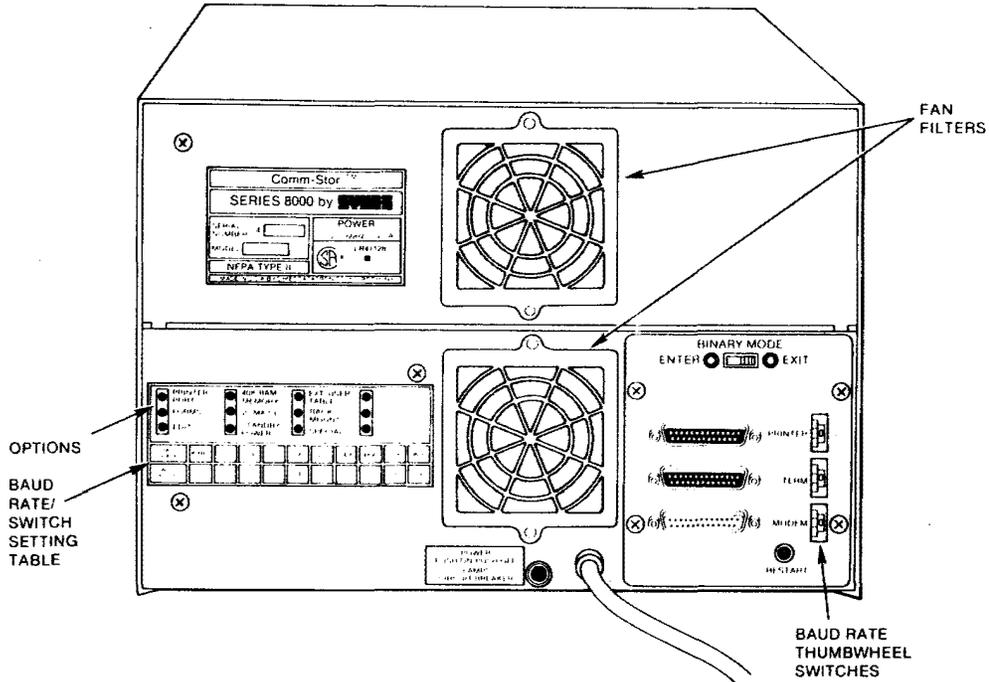

Fig. 2 — Rear View of the Comm-Stor II Unit
**5.04** The first eight tests are selected by setting the modem baud rate switch on the rear panel of the unit (Fig. 2). These tests are listed in Table A. The remaining tests are selected via terminal commands. Diagnostic tests should be performed in the order they are presented in this practice.